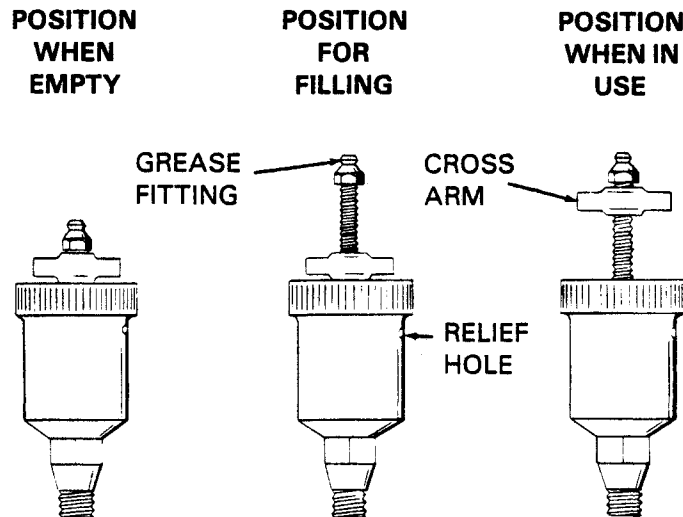

Figure 4. Automatic Lubricating Grease Cup
Before removing the seal assembly, turn the cross arm on the seal grease cup (7) clockwise until it rests against the cover (see figure 4). This will prevent the grease in the cup from escaping after the seal is removed.
Before starting the pump, fill the grease cup through the grease fitting with a good grade of No. 2 pressure gun grease until grease escapes from the relief hole. Turn the grease cup arm counterclockwise until it is at the top of the stem; this will release the spring to apply grease to the seal (see figure 4).